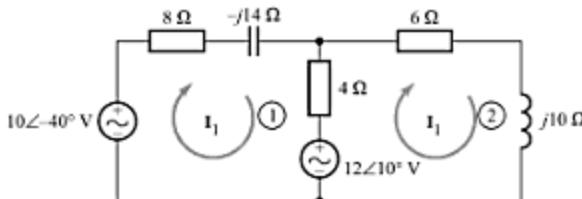

Fig. C-78
- C-131.** Determine the mesh currents  $I_1$  and  $I_2$  in the circuit shown in Fig. C-78.